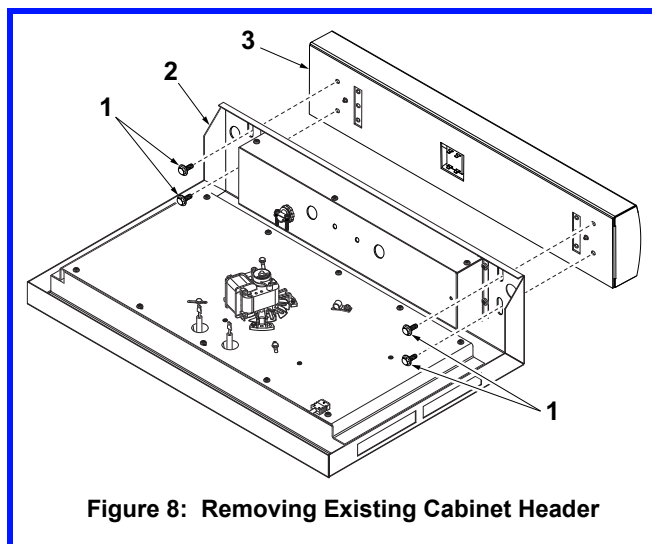

Figure 8: Removing Existing Cabinet Header
11. Carefully pull the Header away from the Warming Cabinet while making sure none of the existing wiring gets caught on the cabinet structure. See Figure 8.
1. Feed wiring from new USB Header through openings in cabinet electrical box attached to the Upper Tray. Replace the four 1/4"-20X1/2" serrated flange head bolts and remove the existing Header from the Warming Cabinet. See Figure 8.